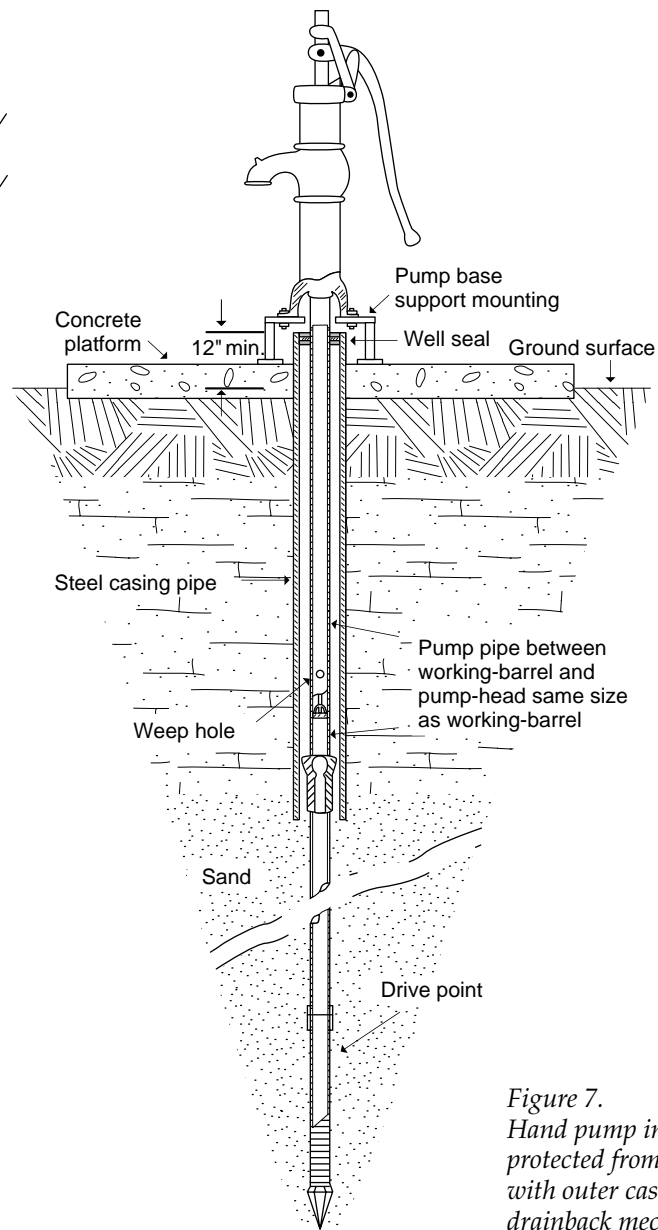

Figure 7.
- ▼ Outside, protected with an outer protective casing (*Figure 7*).